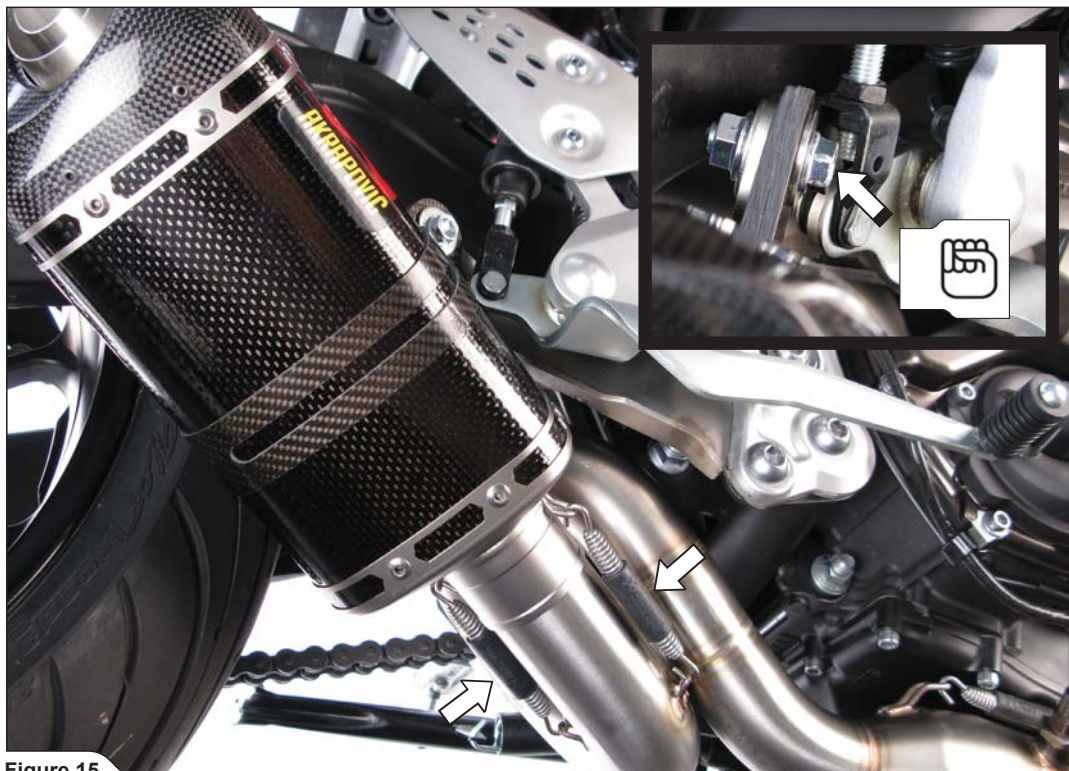

Figure 15
6. Position the muffler correctly and slide it onto the outlet side of the collector, attach the springs and hand tighten the clamp onto the bracket, using bolt, washer and nut from Akrapovič installation kit (**Figure 15**).